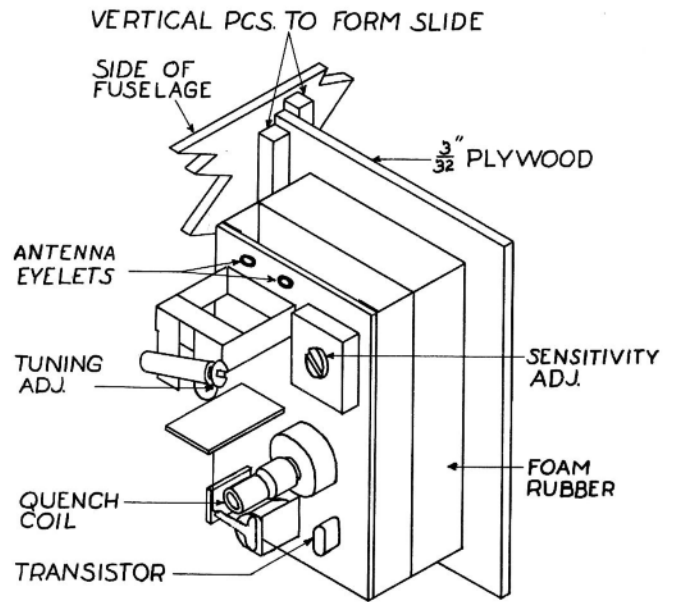

FIG. 2
- 2.1 The crash-proof mounting (Figure 2) is the method of mounting the receiver so that the components are stressed to best resist the shock of a crash. In Figure 2, the metal box is shown glued directly to the sponge rubber. It can also be held down with rubber bands over the ends so long as they do not touch the components of the set. The receiver can be removed by simply taking out the four self-tapping screws. In the event that repair service is ever needed, the receiver may be sent in with plug and less metal box. Be careful to attach wires to plug in the exact order shown and from the proper end. (See Figure 4).